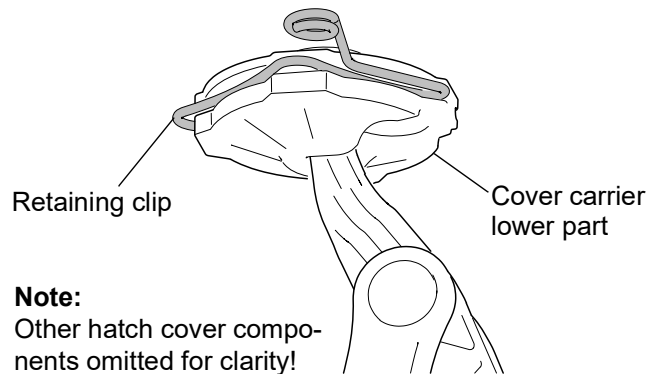

Fig. 805 Retaining clip in position
Make sure all retaining clips (4) are installed properly. They must be pushed to bottom and from correct direction (see Fig. 805).